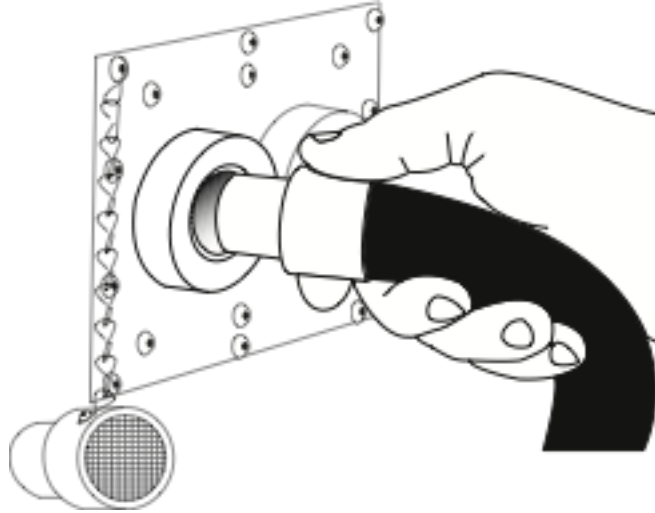

Fig. 5
10. REMOVE THE SCREENED PLUG FROM THE LEFT PORT and plug in the hose as in Fig. 5. If a second hose is needed, remove the solid plug from the right port and plug in the second hose. **NOTE: If a single hose is used, unplugging the second port will effectively eliminate airflow to the Hose and its attached Hood.**